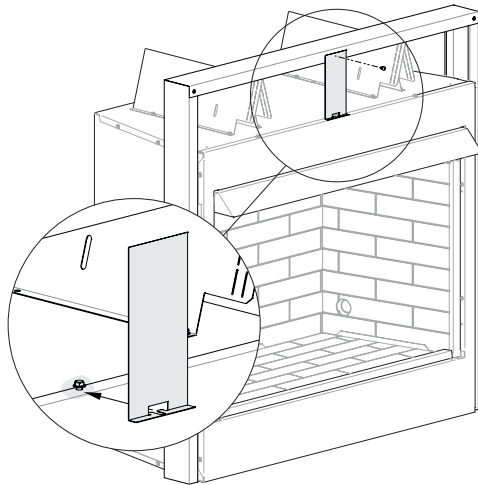

Figure 10
3. Locate the middle bracket. Loosen the screw in the middle top of the firebox. Slide the bracket under the screw as shown in Figure 10. Tighten the hex-head screws on the firebox secure a pan-head screw through the middle bracket and into the top stud.
- Locate the middle bracket. Loosen the screw in the middle top of the firebox. Slide the bracket under the screw as shown in Figure 10. Tighten the hex-head screws on the firebox secure a pan-head screw through the middle bracket and into the top stud.